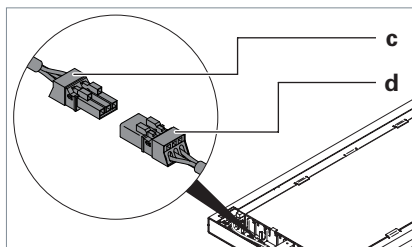

Fig. 14: Connecting the light head, Part 2.
- ▶ Connect the socket **c** to the plug **d** at the light head, see Fig. 14.